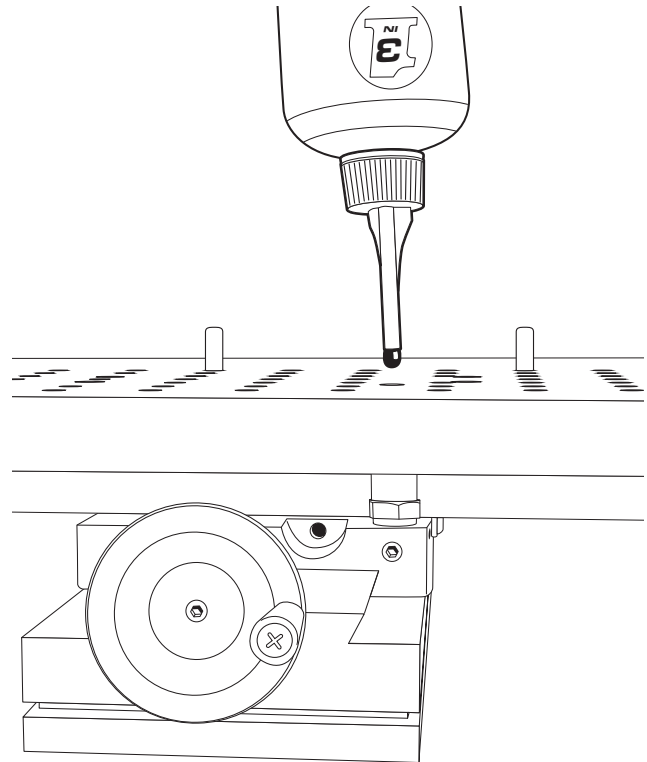

Figure 4—Adding oil through the Oiler-access hole.
3. Add a light oil such as 3-in-1 oil. Fill the cup a few times to start and then fill it once a week from then on (See Figure 4).